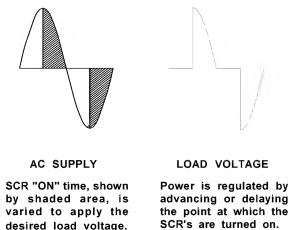

Figure 3.1. Phase-Angle Waveforms
**Phase-angle:** In phase-angle control each SCR of the back-to-back pair is turned on for a variable portion of the half-cycle that it conducts (Figure 3.1). Power is regulated by advancing or delaying the point at which the SCR is turned ON within each half cycle. Light dimmers are an example of phase-angle control.